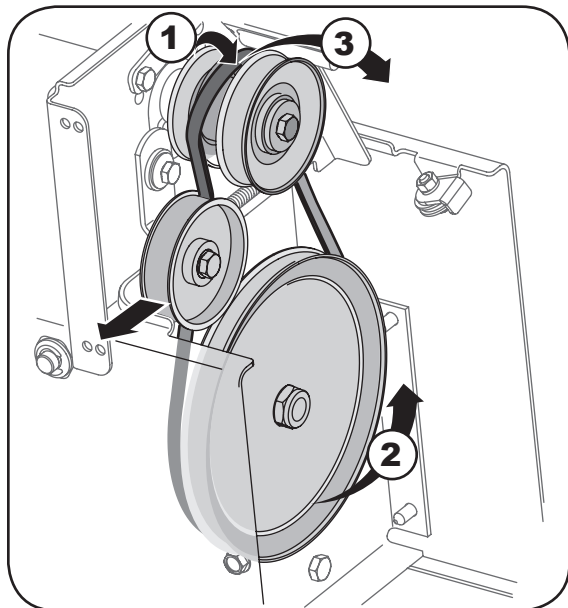

Figure 6-12
1. Pull the idler pulley away from the backside of the drive belt to relieve the tension and slide the drive belt off the idler pulley (If necessary unhook the extension spring from the belt cover plate). See Figure 6-12.